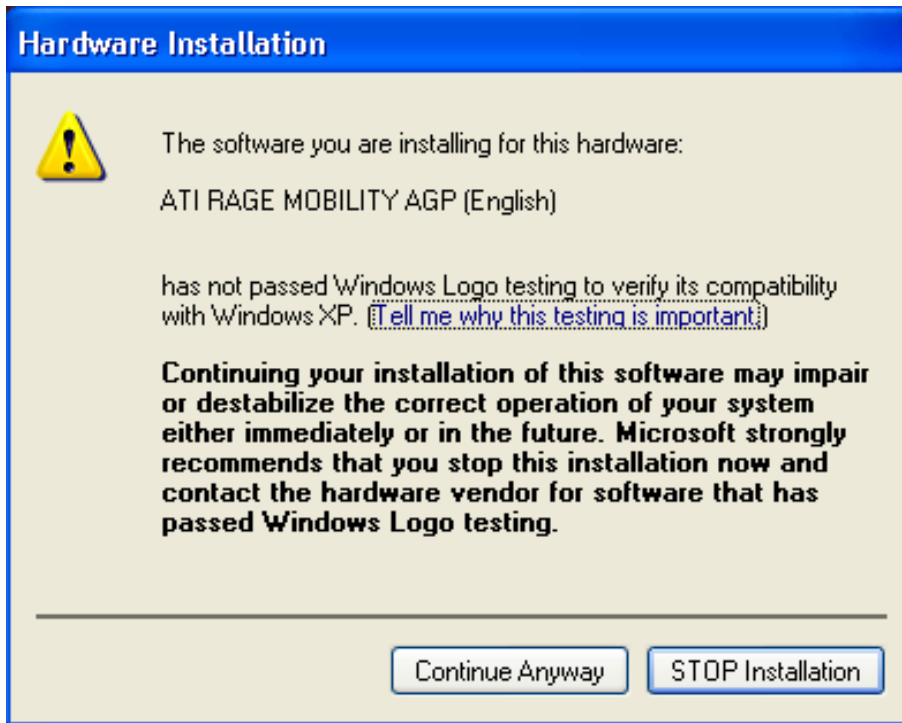

Figure 6-10: Hardware Installation
- Step 7:** The Hardware Installation window may appear (Figure 6-10). Click **CONTINUE ANYWAY** to continue.